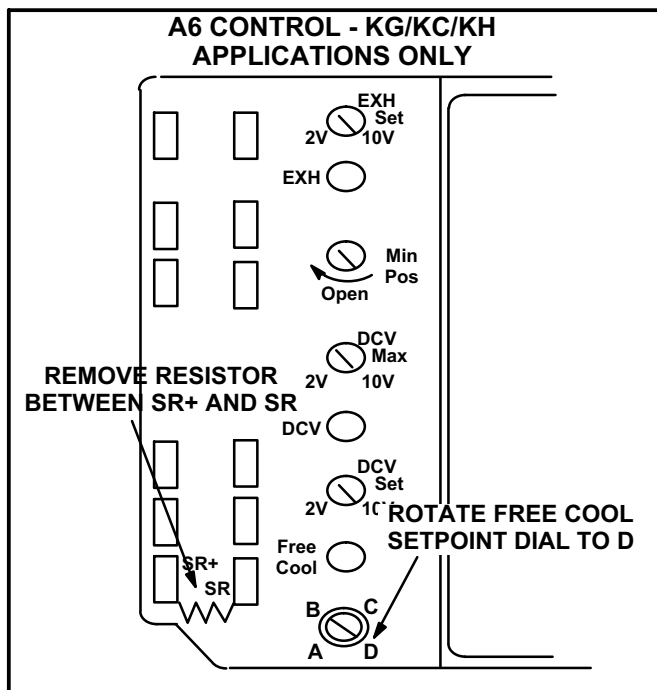

FIGURE 7
- 2- Remove resistor between A6 enthalpy control terminals SR+ and SR. See figure 7.
- 4- Turn A6 control setpoint dial completely clockwise to position "D". See figure 7.